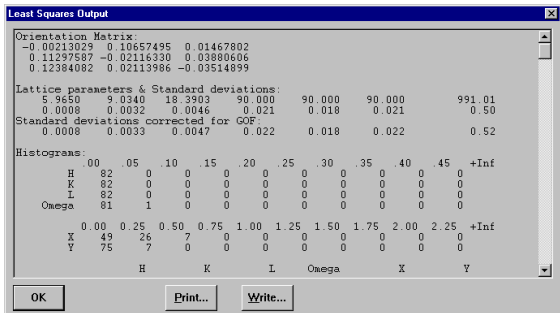

Figure 4-39. Histogram for reflections and unit cell parameters with errors
- Press OK. SMART displays a Least Squares Output window showing, among other data, a histogram for the reflections and the unit cell parameters with errors (Figure 4-39).